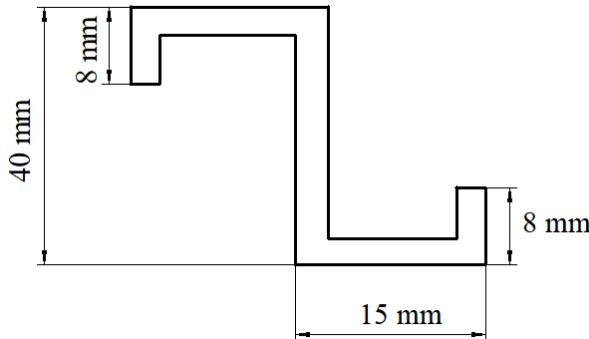

Figure 8b
b) Calculate the crippling stress for the given extrusion section shown in the figure 8b using the Gerard method. Assume $E=75$ GPa and the yield stress is 280 MPa. Thickness of the section is 1.5 mm.